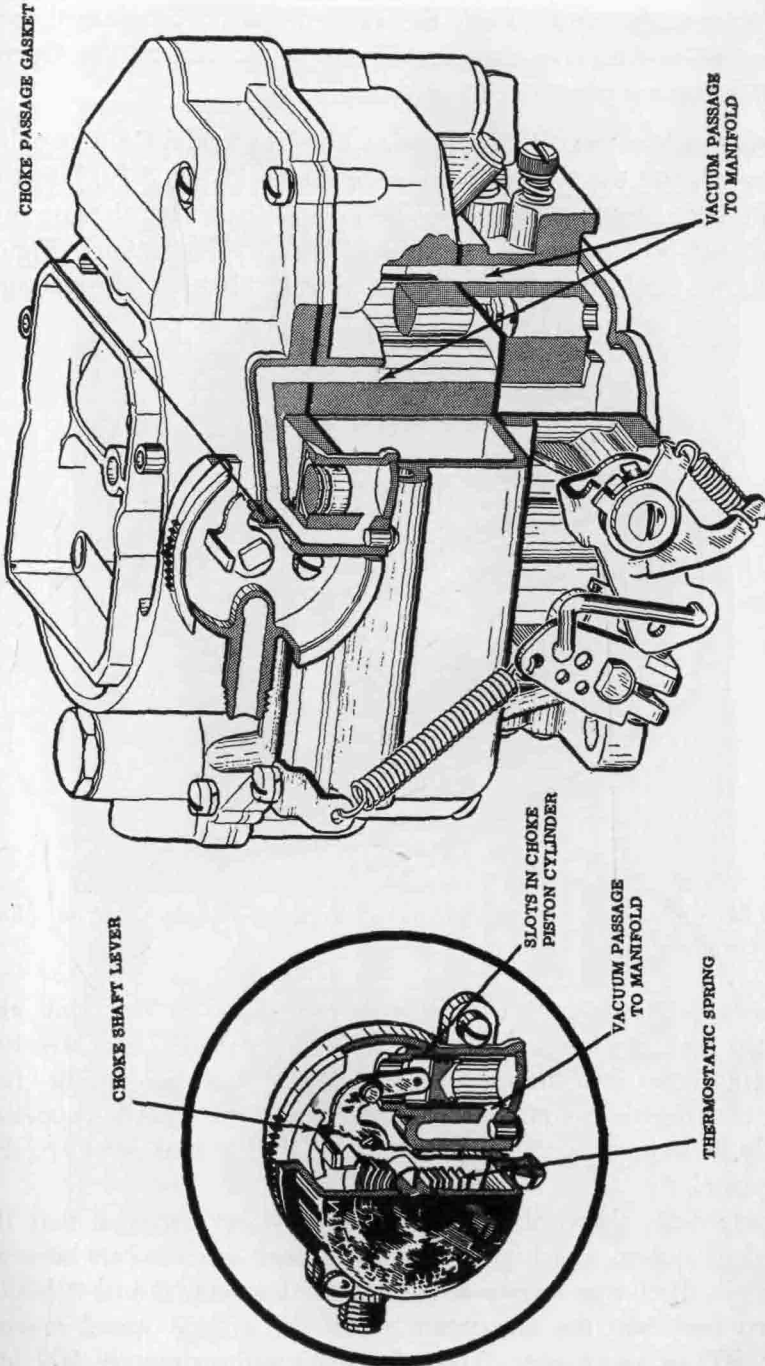

FIG. 5-25. Choke circuit of four-barrel carburetor. (Oldsmobile Division of General Motors Corporation)
6. *Choke circuit.* The choke circuit is shown in Fig. 5-25. Note that there is a choke valve on the primary side only. The choke valve is positioned by the thermostatic spring so that it is closed when the engine is cold and open when the engine is hot. During warm-up, the vacuum piston also helps to determine choke-valve position. Vacuum in the intake manifold causes the vacuum piston to tend to open the choke valve. But during acceleration, when the intake-